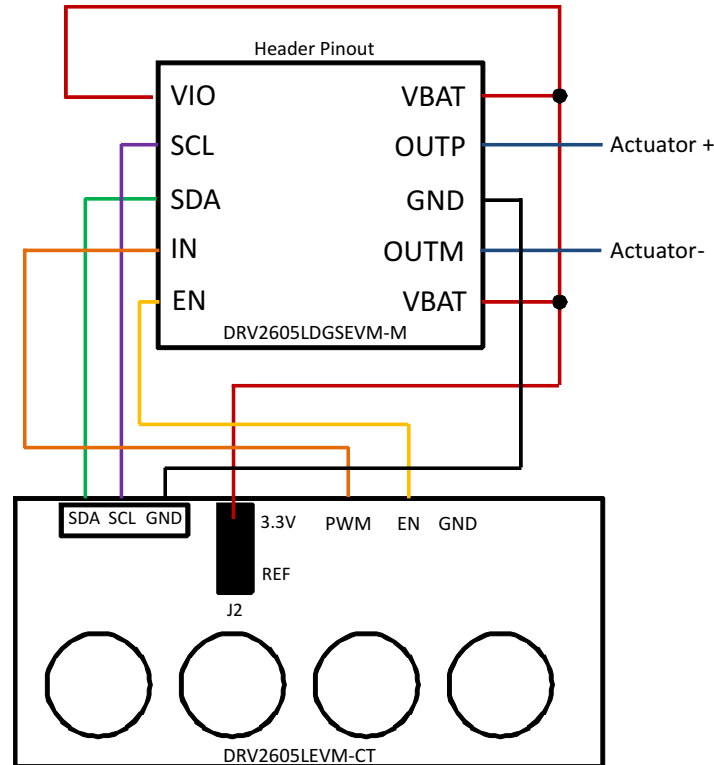

Figure 3. DRV2605LDGSEVM-M Connection to DRV2605LEVM-CT
This section describes how to setup and operate the DRV2605LDGSEVM-M with the DRV2605LEVM-CT board. The "non-L" version of the EVM-CT boards can be used in place of the "L" version but the firmware needs to be updated to the "L" version. Figure 3 shows the connection of the breakout board to the DRV2605LEVM-CT board.
1. Connect the DRV2605LDGSEVM-M to the DRV2605LEVM-CT with IC test hook lead cables as shown in Figure 3. If VIO header pin is not being used, it can be left floating. Connect a separate actuator to the OUTP and OUTM headers of the DRV2605LDGSEVM-M.